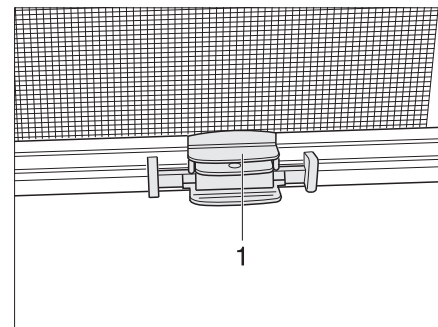

Fig. 49 Blind
- Grip the end rod (Fig. 49,1) of the roller insect screen in the middle and move it to the end rod of the blind.
- Hold the end rod (Fig. 49,1) of the roller insect screen and press the latch.